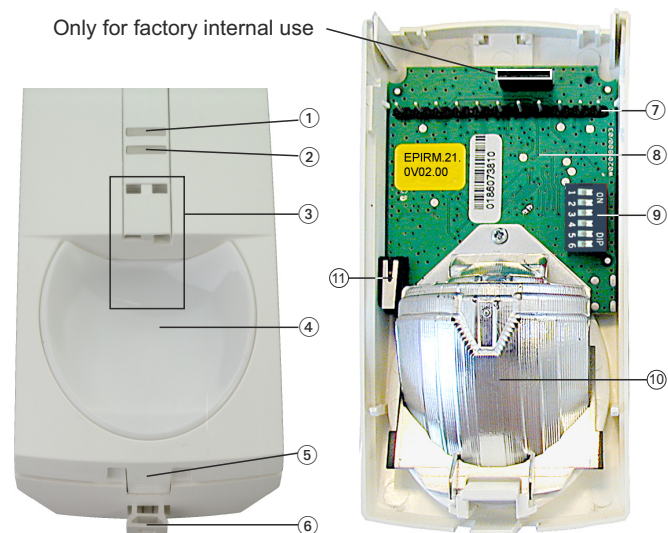

Fig. 1
- ① If necessary, break the seal with a small screwdriver or similar object and pull downward.
- ② Press the notch (at the bottom in the middle, see Fig. 1-⑤) slightly inward.
- ③ Press off the front of the housing.
- ④ Lift off the housing front.